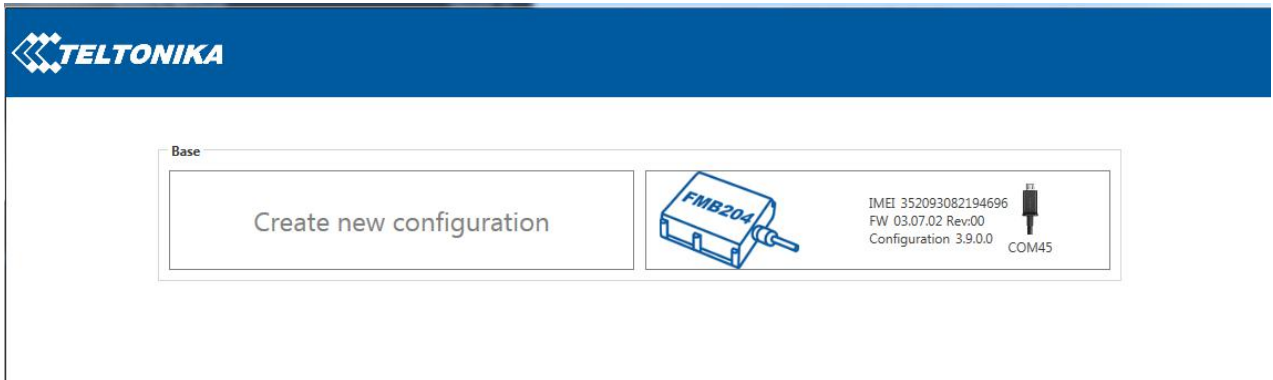

Figure 33 FMB2YX configurator connected devices window
- Launch **FMB Configurator** and connect to device as shown in **Figure 33** below.